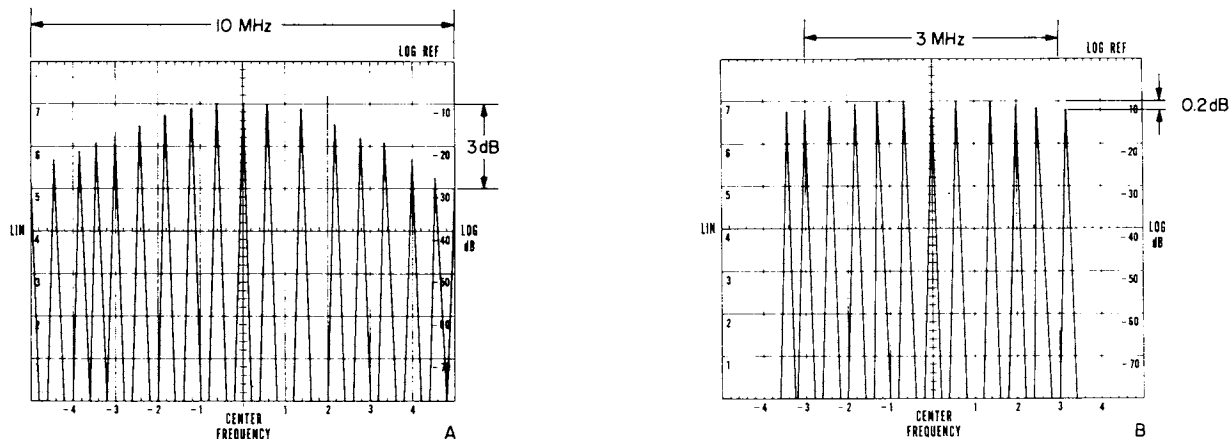

Figure 5-4. Bandpass Flatness Display
- Check 3 dB bandwidth (see Figure 5-4).
- Repeat step 4 and observe CRT display for flatness over a 3 MHz range (see Figure 5-4).